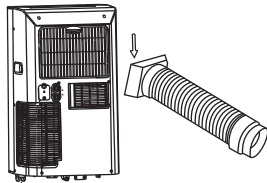

Fig.17
2. Install the flexible Exhaust hose as depicted in Fig.17 & 18.